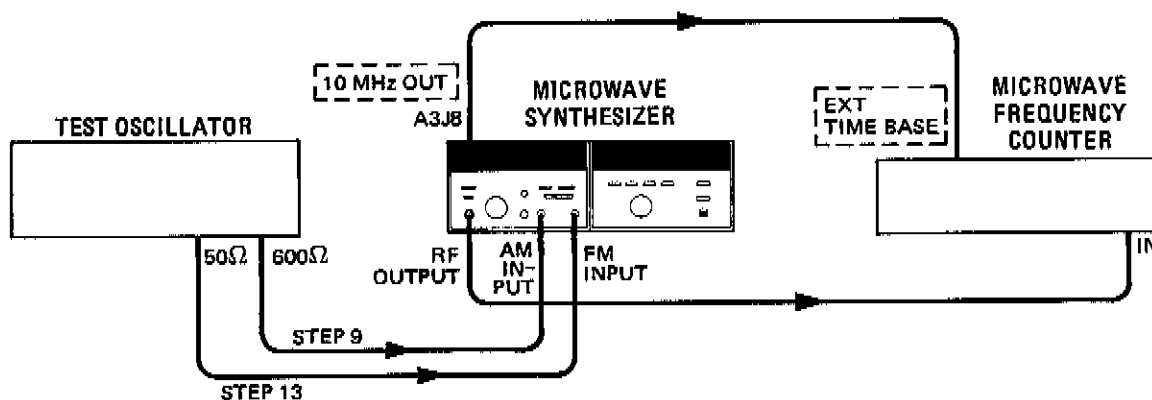

Figure 3-3. Operator's Frequency and Modulation Checks Test Setup
3. Press one at a time, the four FREQUENCY RESOLUTION keys **13** and the Frequency Resolution Light Bars **8** should light one at a time and remain lit. Rotate the TUNING control **14** clockwise and then counter-clockwise and note that the digits displayed in the FREQUENCY display **8** increase and then decrease in order as the TUNING control **14** is turned. Perform this step as each of the four FREQUENCY RESOLUTION keys **13** are pressed. The first key on the left produces resolution in 100 MHz steps, the second key 1 MHz steps, the third key 10 kHz steps, and the fourth key 1 kHz, 2 kHz, or 3 kHz steps, depending upon the frequency band. Pressing the fourth key first will cause all four of the Frequency Light Bars **8** to light and will produce the highest tuning resolution. Pressing the HOLD **10** pushbutton causes the Light Bars **8** to extinguish and prevents the TUNING control **14** from changing the frequency displayed.
4. Connect the microwave frequency counter to the Synthesizer as shown in Figure 3-3.
9. Apply power to the test oscillator, set the frequency to 10 kHz and the output level to 0 Vrms. Connect the test setup as shown in Figure 3-3.